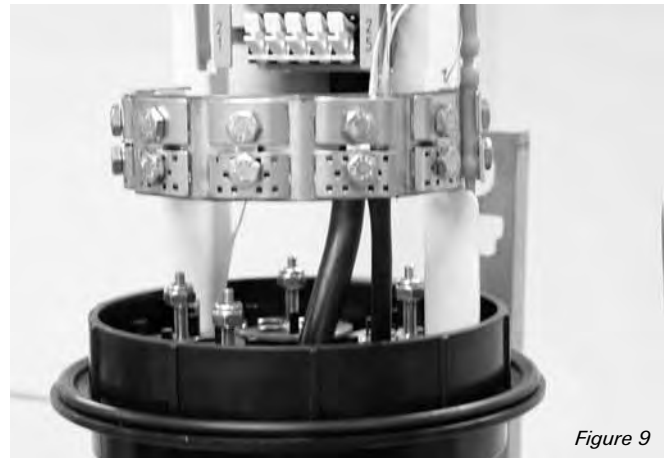

Figure 9
6. Use the 216 tool to loosen both bolts of the ground clamp so that the drop wire can be positioned underneath the ground clamp from the side. (Figure 9)
7. Position the drop cable so that the exposed shield is located under the top (solid) portion of the ground clamp, and the cable jacket is positioned under the bottom (perforated) portion of the ground clamp. (Figure 9) Add additional drops following steps 2-5 if necessary. Use a 216 tool to tighten both bolts on the ground clamp (25 in-lbs torque minimum) to secure the drop cable(s) in place.